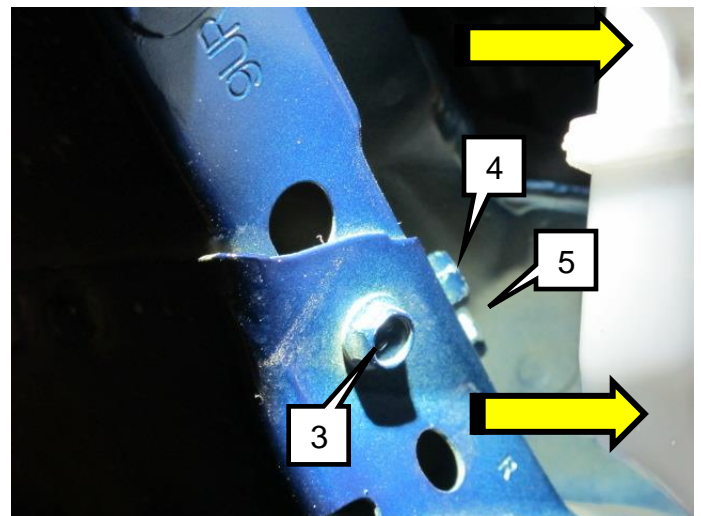

Figure 13
- Move washer tank over toward right front fender to gain access to bolts 4 & 5 (Figure 13)